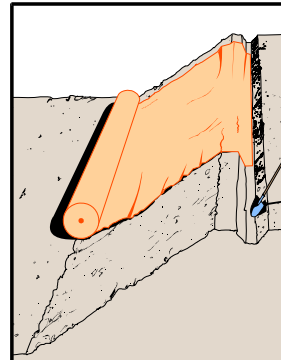

Figure 2 Geotextile Placement
- If required, install the specified geotextile over the prepared slope. See Figure 2.